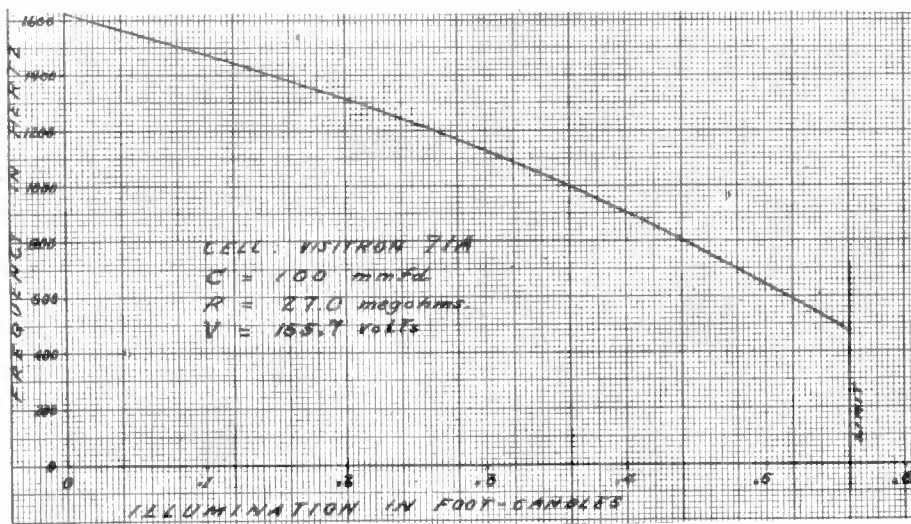

FIG. 3
(2)—The frequency of oscillation decreases with an increase in the radiation falling on the photo-electric cell. The form of this characteristic is dependent upon the type of photo-electric cell being used. With photo-holic. With selenium cells the relation is apparently parabolic. This characteristic, for the apparatus studied, is given in Fig. 3. The slight curvature of the characteristic should be noted.